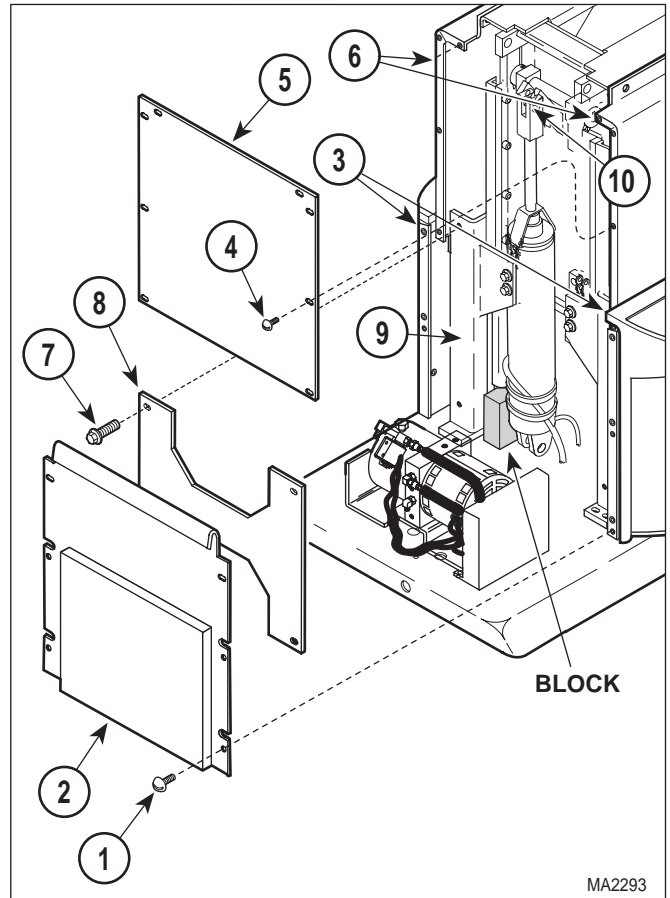
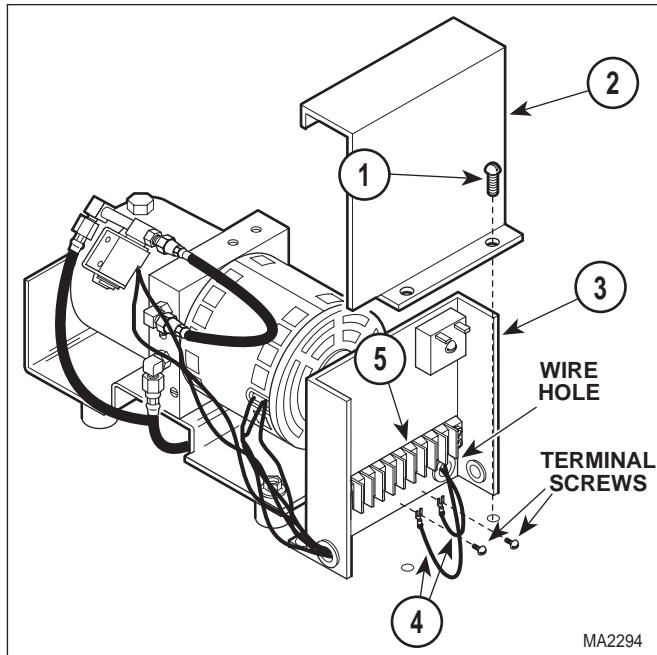
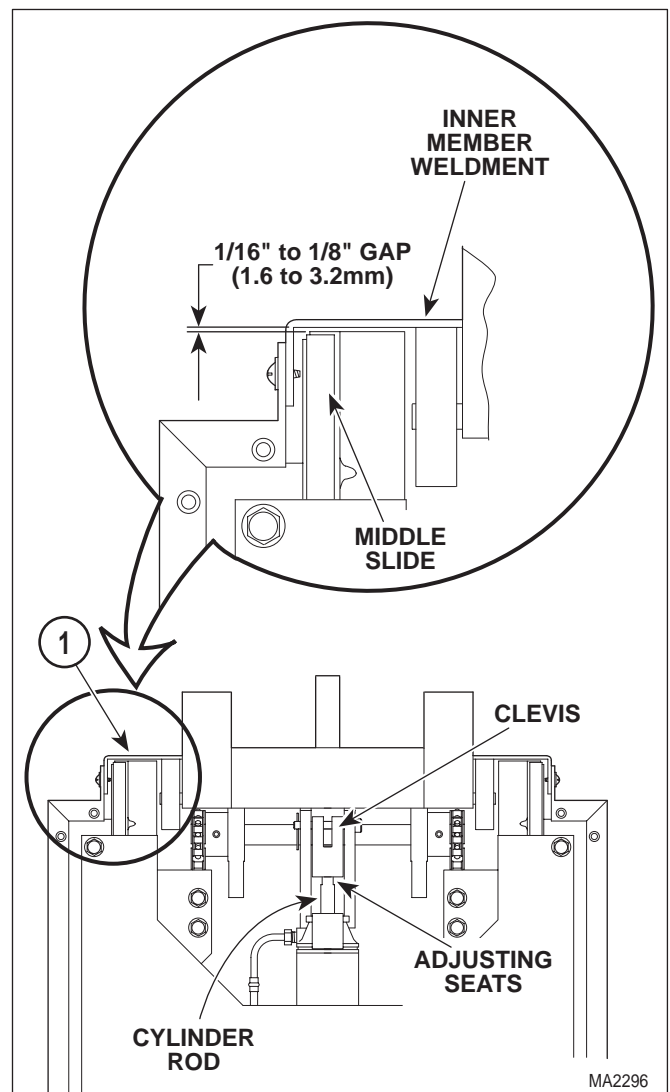

Figure 4-17. Base Cylinder Access
Figure 4-18. Base Cylinder Wires Disconnection / Connection
Figure 4-20. Base Cylinder Clevis Adjustment
- (1) Unplug table power cord from outlet.
- (2) Remove motor cover assembly (Refer to para 4.2).
- (3) Remove four screws (1, Figure 4-17) and back outer shroud (2) from left and right hand outer shrouds (3).
- (4) Remove eight screws (4) and back inner shroud (5) from left and right hand inner shrouds (6).
- (5) Remove four screws (7) and brace (8) from base slide assembly (9).
- (6) Plug table power cord into outlet.
- (7) If BASE DOWN function is operable, place a block under middle slide of base slide assembly (9). Then lower the BASE DOWN function until the middle slide of the base slide assembly is resting on block and pressure is off clevis pin (10). If BASE DOWN function is not operable, move table top to a horizontal position and place supports under each end of table.
- (8) Remove two screws (1, Figure 4-18) and control cover (2) from control panel (3).
- (5) Install base cylinder (3) on brackets (6) and secure with clevis pins (2 and 5) and hitch pin clips (1 and 4).
- (6) Feed base cylinder wires (4, Figure 4-18) thru wire hole.
- (7) Connect two base cylinder wires (4) to terminal block (5) and secure by tightening two terminal screws.
- (8) Install control cover (2) on control panel (3) and secure with two screws (1).
- (9) Plug table power cord into outlet.
- (10) See Figure 4-17. Raise BASE UP function slightly and remove block from under middle slide of base slide assembly (9) or remove supports from under table top.
- (11) Lower BASE DOWN function all the way down.
- (12) See Figure 4-20. If there *is not* a 1/16 to 1/8 inch (1.6 to 3.2 mm) gap between inner member weldment and top of middle slide when the BASE DOWN function is completely lowered (it is especially important that the inner member weldment does not come into contact with top of middle slide), perform steps 13 thru 15. If gap is correct when the BASE DOWN function is completely lowered, go to step 16.
- (13) Raise BASE UP function up until cylinder rod is extended halfway.
- (14) Place a wrench on adjusting seats of cylinder rod and use it to rotate cylinder rod to adjust clevis up or down as necessary.
- (15) Repeat steps 11 thru 15 until there *is* a 1/16 to 1/8 inch (1.6 to 3.2 mm) gap between inner member weldment and middle slide of base slide assembly when the BASE DOWN function is completely lowered.
- (16) Install brace (8, Figure 4-17) on base slide assembly (9) and secure with four screws (7).
- (17) Install any cable ties removed during removal.
- (18) Install back inner shroud (5) on left and right hand inner shrouds (6) and secure with eight screws (4).
- (19) Install back outer shroud (2) on left and right hand outer shrouds (3) and secure with four screws (1).
- (20) If necessary, add oil to motor pump (Refer to para 4.3).
- (21) Install motor cover assembly (Refer to para 4.2).